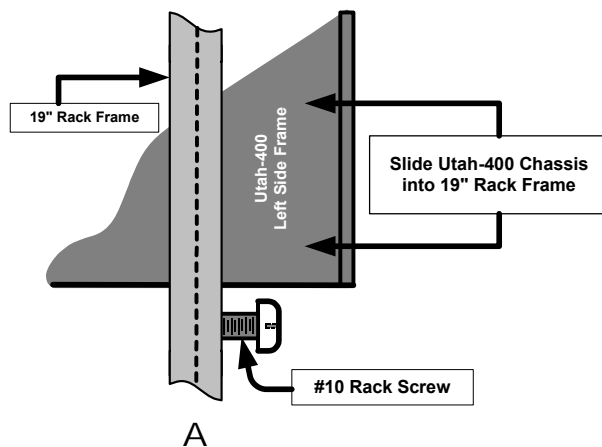

FIGURE 2-3. Sliding the Utah-400 Chassis into Rack Frame
- b. Install two rack screws 3/4 of the way into the empty rack frame below the height determined in step a, above (leave a 1/8" gap). These screws will be used to support the weight of the chassis when it is moved into the rack frame. See Figure 2-3, Section A.
- d. Move the chassis to the 19" rack frame and carefully slide it into the rack frame, hooking the flange of the chassis above the rack screws installed in step b., above. See Figure 2-3, Section B.